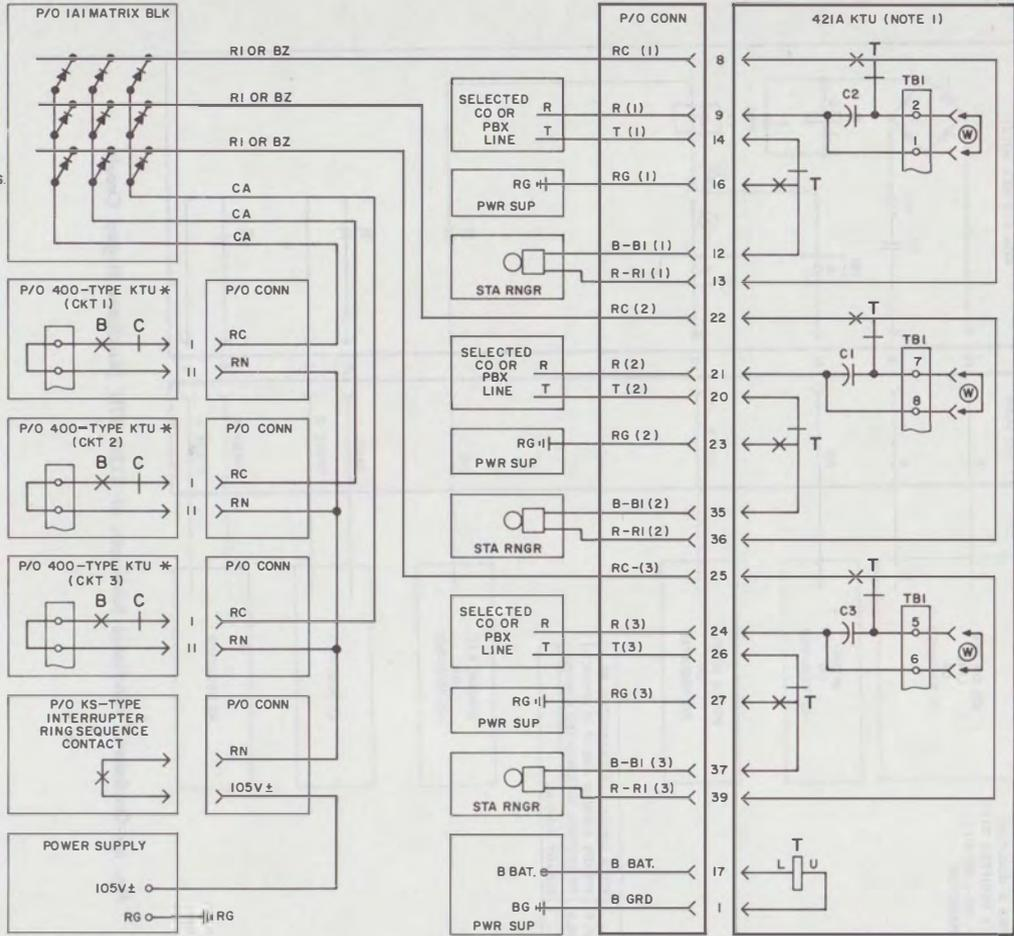
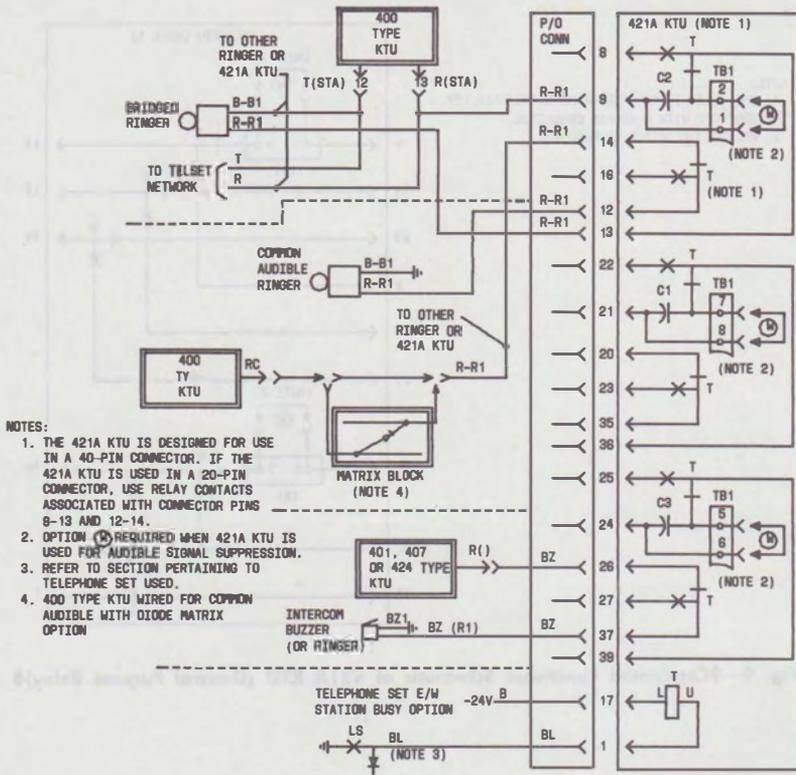

Fig. 7—Condensed Functional Schematic of 421A KTU (Wired for Power Failure Transfer)
Fig. 8—Condensed Functional Schematic of 421A KTU (Wired for Audible Signal Suppression)
2.05 The 421A KTU is a 4-inch, 40-contact unit that can be used to automatically transfer a maximum of three station ringers from a common audible connection to a line ringing connection in the event of a power failure (Fig. 7). †The 421A KTU can be used to suppress (cut off) audible signals on a line or lines associated with a key telephone set when that set is off-hook (Fig. 8). †It can also be used as a general purpose relay